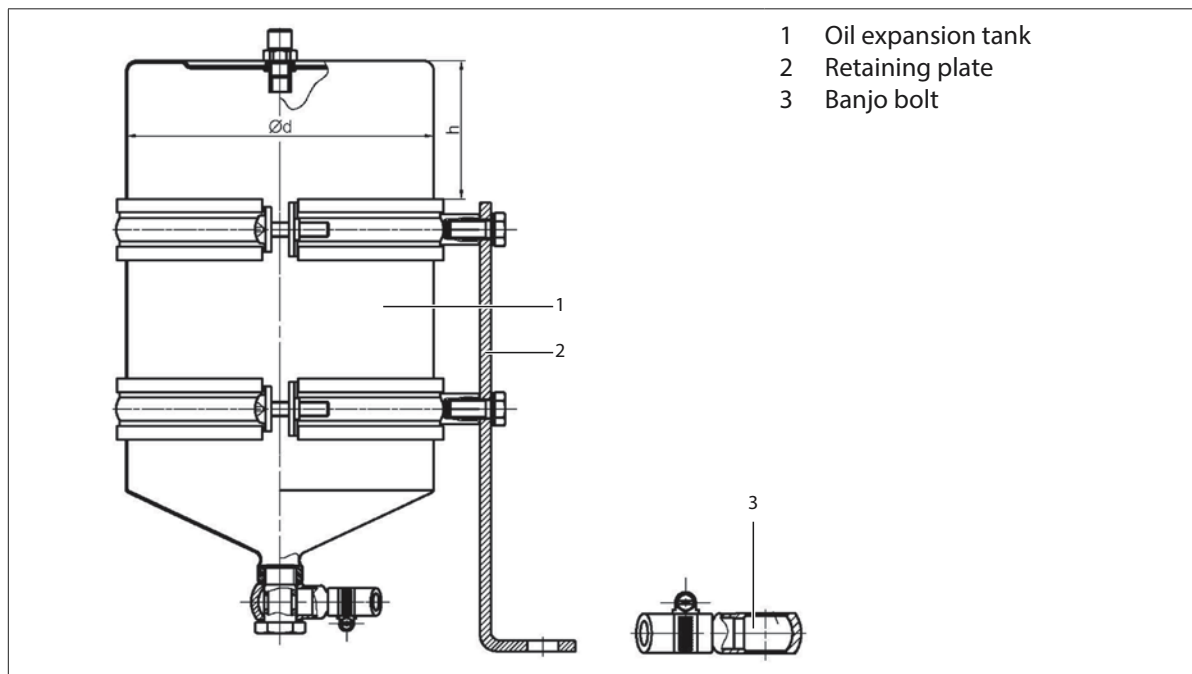

Fig. 10: Accessory set, Part 1: Oil expansion tank unit with retaining plate
- ▶ Place oil expansion tank (1, Fig. 10, p. 38) with mounted retaining plate (2, Fig. 10, p. 38) on threaded bolt (3) and fasten with spring washers (2) and hex nut (1).
- When doing so, note the correct height position h of the tank, see Fig. 10, p. 38 and Tab. 12, p. 38.